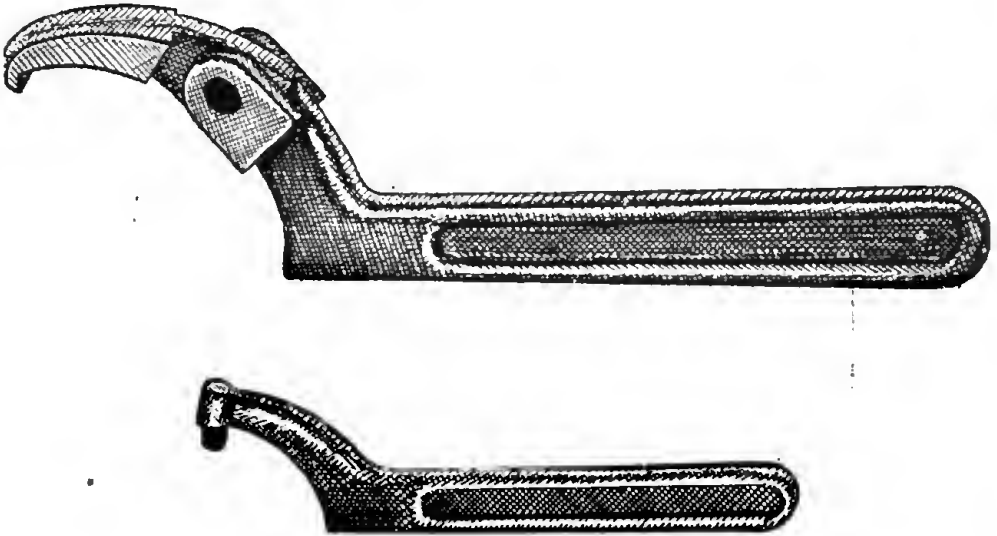

Figure 39. Spanner wrenches.
a. SPANNER WRENCHES. (1) A spanner wrench has a semicircular head on a handle. The radius of the head depends upon the part the wrench is made to fit. There are lugs or pins on the head to provide a gripping surface. A solid spanner wrench is made to fit some particular piece of equipment. An adjustable spanner wrench has a pivoted head and may be used to fit nuts of different sizes. Several different spanner wrenches are shown in figure 39.